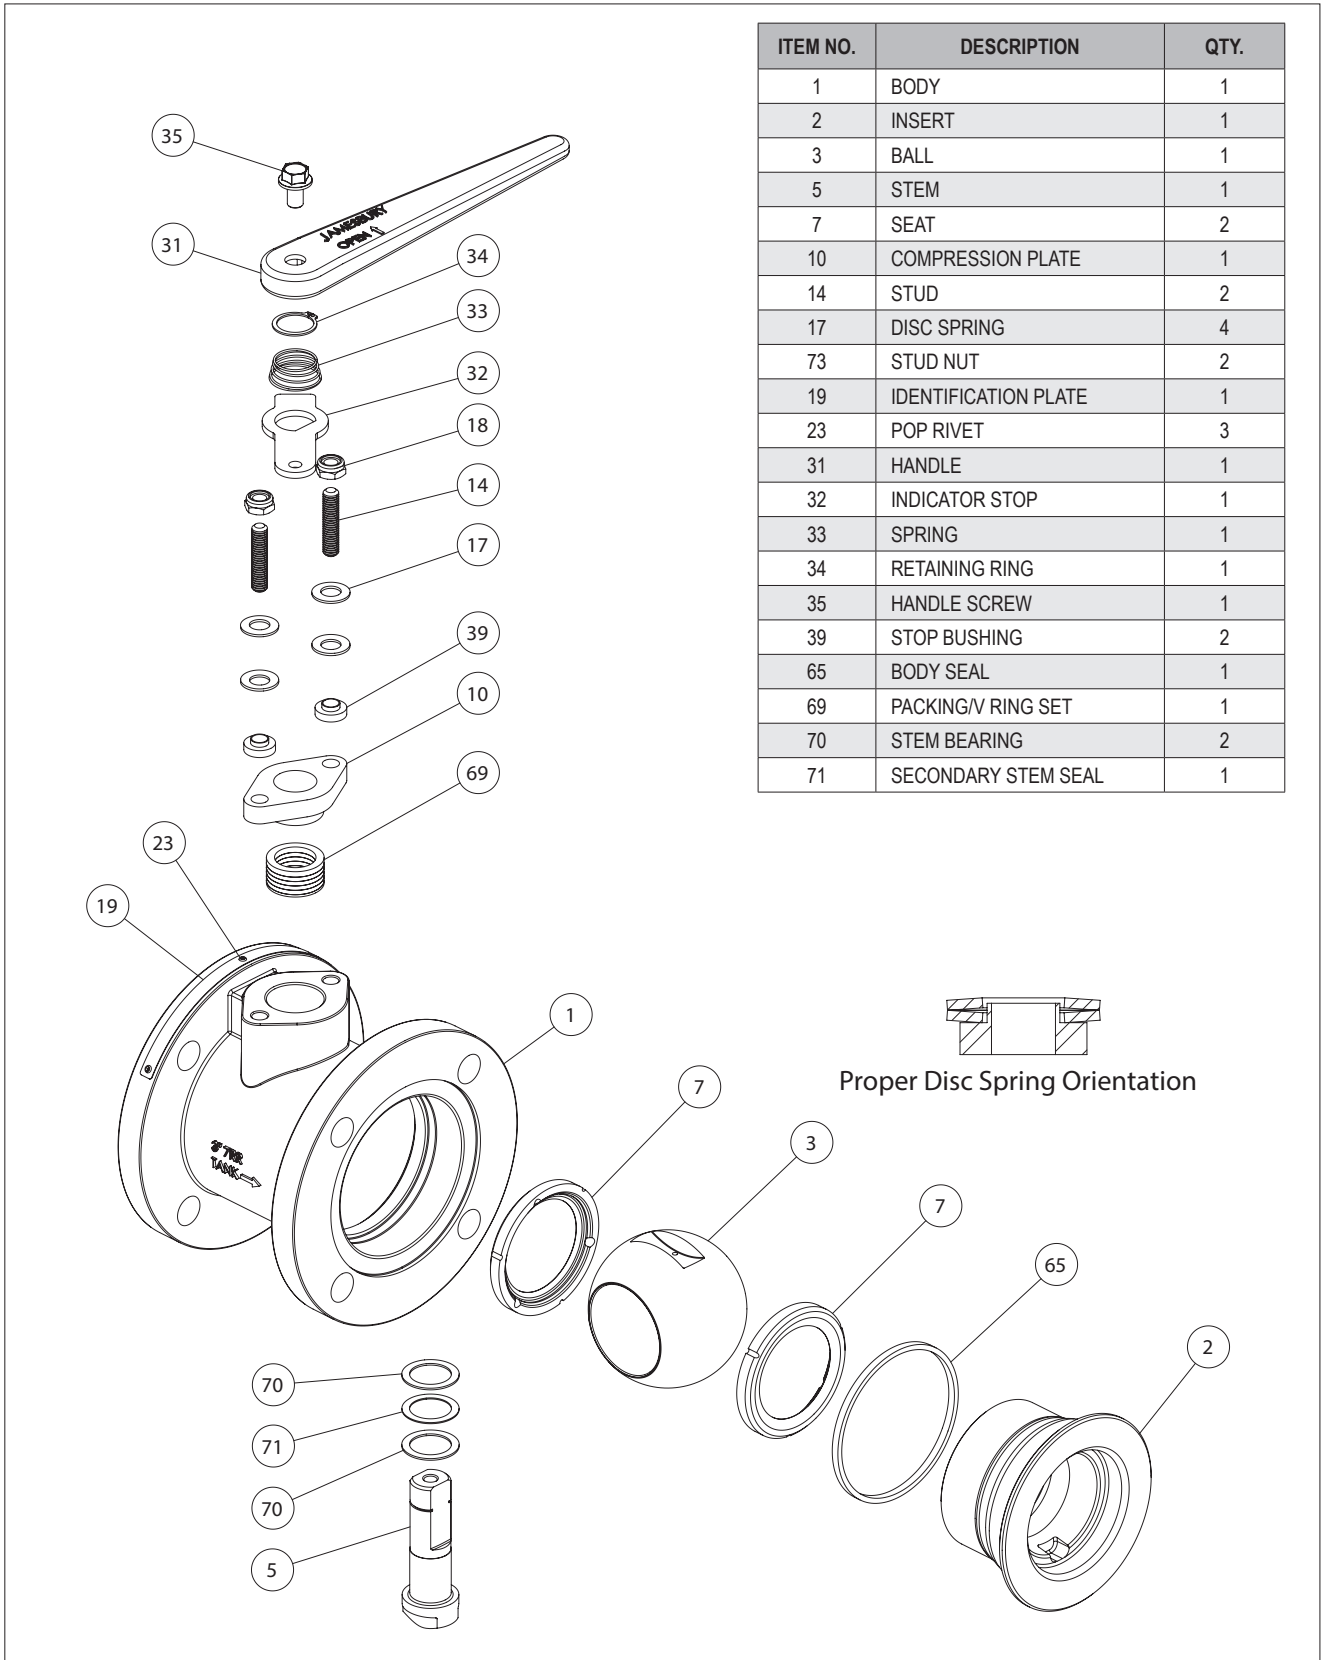

Figure 9.
Good operating procedure requires periodic observation to ensure that the valve is functioning well. The frequency of observation will depend on the application. Routine maintenance consists of tightening the bonnet stud nuts (item 18 in **Figure 9**) periodically to compensate for stem seal wear. More frequent observation is recommended under extreme operating conditions.
2. Check the stem (5) and ball (3) for damage. Pay particular attention to the sealing areas.
3. Check all sealing and gasket surfaces of the body (1) and insert (2).
- c. From **Figure 9**, the ballooned part number, part name and quantity required.
7. Holding the stem in place from the inside, install the packing v-ring set (69) and the compression plate (10) over the end of the stem protruding out of the body stem bore and over the studs (14) the as shown in **Figure 9**.
8. Install the indicator stop (32) so the flat on the internal diameter of the indicator stop matches with the flat on the stem (5), and the long end towards the insert end of the body as shown in **Figure 9**. Install the spring (33) over the stem (5) with the large diameter of the spring touching the indicator stop (5). Install retaining ring (34) over stem (5) locating the retaining ring in the groove in the stem and compressing the spring.